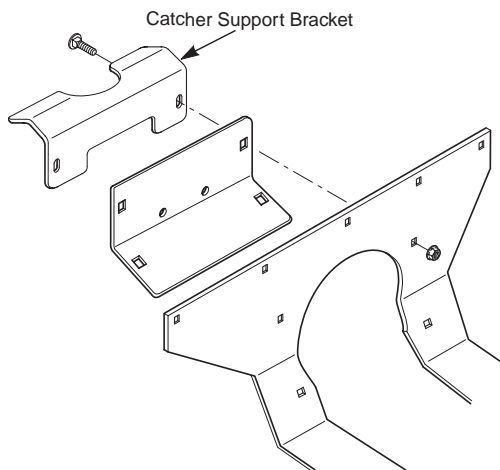

FIGURE 3-6
15. Install the catcher support bracket onto the rear of the machine and secure with 5/16-18 x 1" carriage bolts (p/n 04003-04) and 5/16-18 serrated flange nuts (p/n 04019-03) See Figure 3-6.